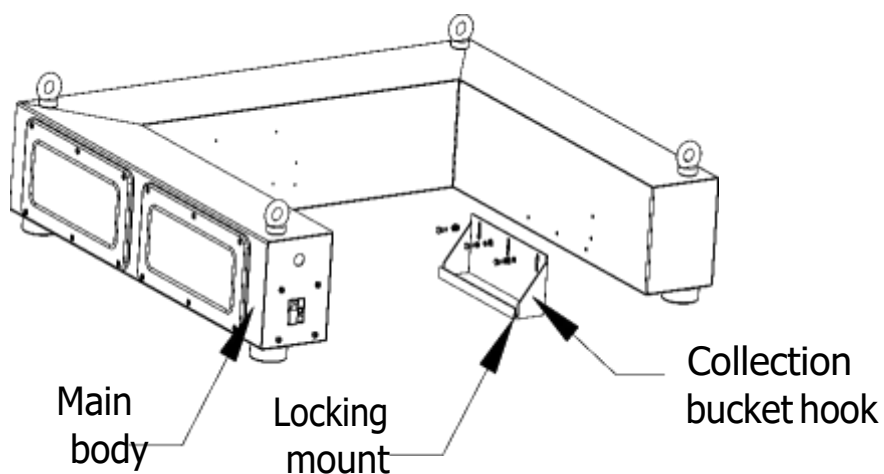

Fig. 3.3.5
1. As shown in Fig. 3.3.5, install the Collection Bucket brackets on the main body, and tighten bolts.